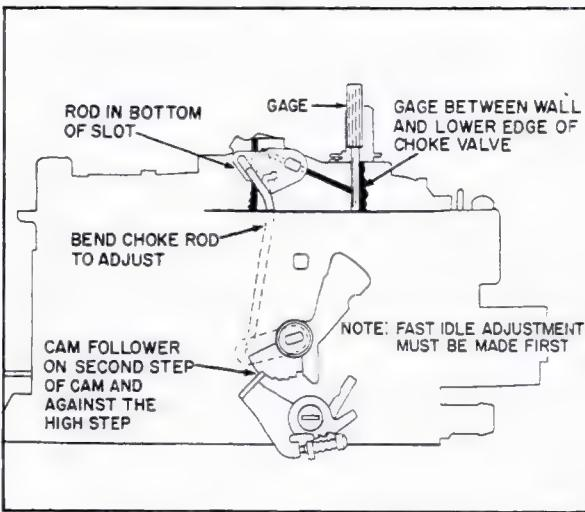

Fig. 6-79 Choke Rod Adjustment
82. Choke Rod Adjustment (Fig. 6-79)
- Bend choke rod, Fig. 6-79 to adjust.